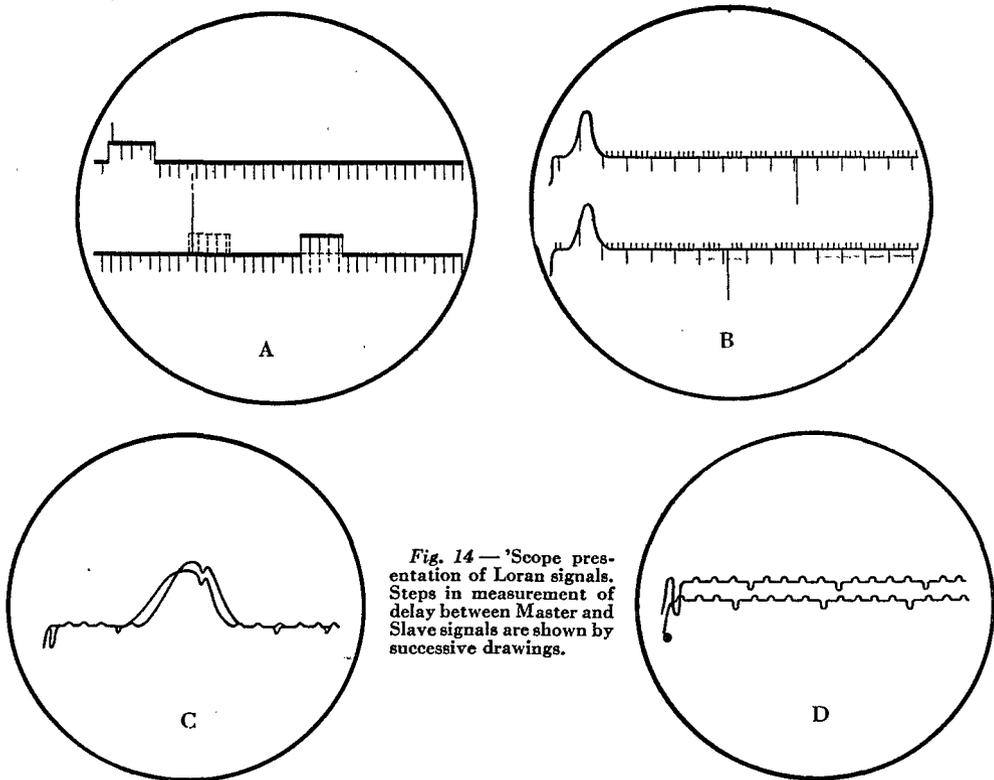

Fig. 14 — 'Scope presentation of Loran signals. Steps in measurement of delay between Master and Slave signals are shown by successive drawings.
Fig. 14 illustrates a sequence of 'scope presentations which would enable a navigator to ascertain a line of position. The first (a) shows a single pair of signals. The pair has first been selected by means of a numbered rate switch which in one of its positions makes them stand still. Any slight drift is stopped by correcting the indicator crystal oscillator. The Master signal has been set upon the upper pedestal in accordance with a simple operating rule. The Slave signal sits where
it will on the lower trace. Their amplitudes have been adjusted by the receiver gain control to a convenient value for the weaker signal and a discriminating amplitude-balance control has attenuated the stronger signal until it matches the weaker. The manual delay controls move the lower pedestal underneath the Slave signal, as indicated by the dotted lines in Fig. 14(A) so
that the pip stands in the same relation to the pedestal as the Master signal does to its pedestal. This gives a first approximation of the delay between the Master and Slave signals. As the sweep speed is increased in two steps, the pips widen out into pulses. This constitutes an electronic magnification of the left side of the pedestals. Fig. 14(C) shows the traces collapsed by means of the trace
Let us switch back to the slowest sweep and determine the delay. We will use Figs. 14(A), (B), and (D) to demonstrate how the delay between arrival of Master and Slave signals may be measured to a microsecond. Ordinarily, at this point, the navigator cuts off the receiver lead to the 'scope so as to avoid distraction. Only the 500-microsecond markers are clearly visible on the traces, pointing downward, each fifth one somewhat shortened to aid in the identification. Usually the Master pedestal has been adjusted so that its left edge occurs at the second visible 500-microsecond marker. Counting markers to the right we find that we have moved the lower pedestal so that there is an approximate reading of  $4000 \pm$  microseconds delay between the Master and Slave signals.
A medium-fast sweep is now switched on. Fig. 14(B) shows the 50-microsecond markers as the predominant ones, pointing down. The 10s are pointing up. (The 500s are displaced slightly to the right of the 50s.) Starting with a convenient 500-microsecond marker on the lower trace, we count off to the right by 50s until we reach the intersection of the first upper trace 500-microsecond marker with the lower line. In the illustration, this seems to be close to 150 microseconds. Adding this second approximation to the first we come out with a total of  $4150 \pm$  microseconds delay between the Master and Slave signals.
The last step is to switch on the fastest sweep which makes the 10-microsecond markers apparent as bumps above the trace line, as in Fig. 14(D).